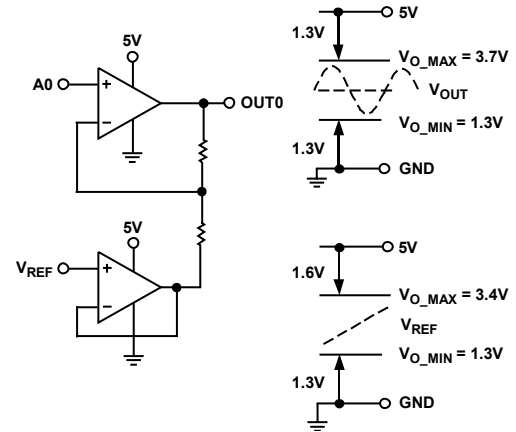

Figure 47. Output Compliance of Main Amplifier Channel and Ground Buffer
- On the AD8189, V_{REF} cannot be tied to the most negative analog supply, V_{EE}. The limits on reference voltage are (see Figure 47):